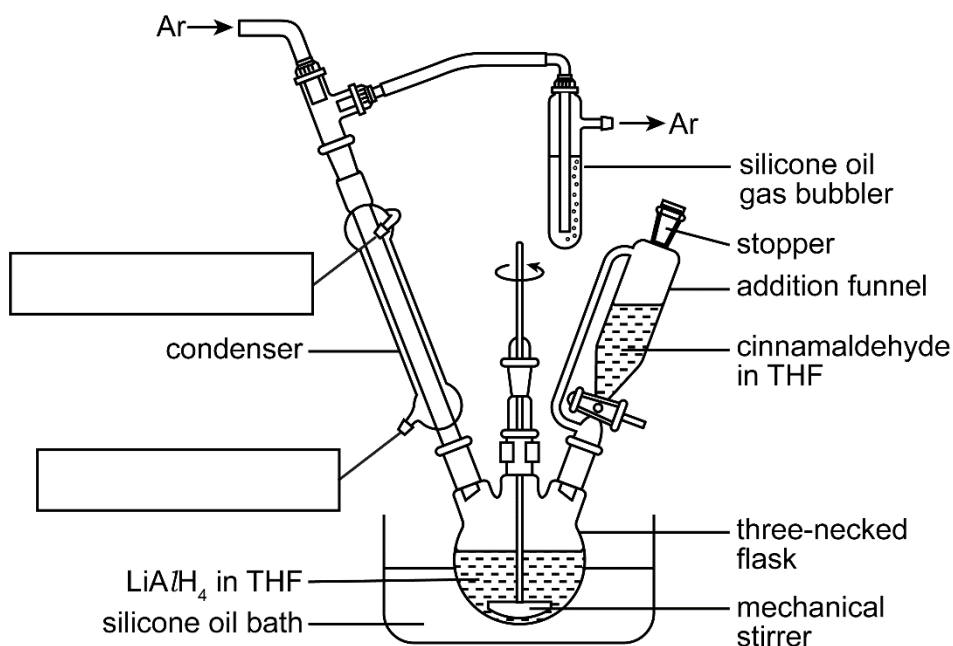

Fig. 4.1
3. Add in 20 cm3 of dry THF and quickly fit a stirrer, condenser and addition funnel and set up the apparatus as in Fig. 4.1.
(c) (i) Label the direction of “water in” and “water out” for the condenser, in the two boxes in Fig. 4.1. [1]